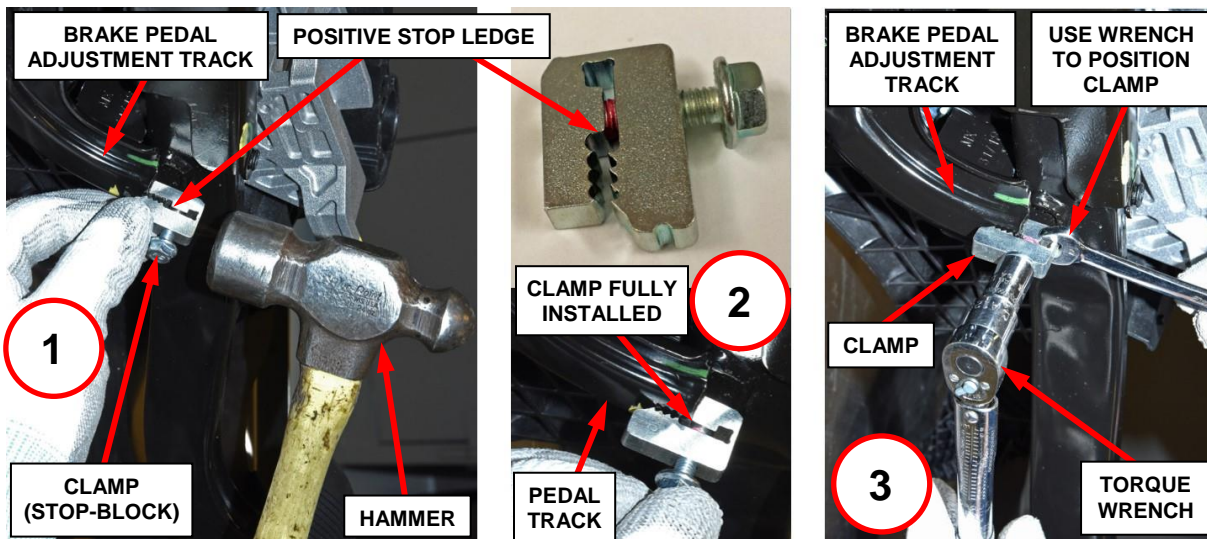

Figure 10 – Clamp (Stop-Block) Installation to Brake Pedal Adjustment Track
- Fully install the clamp until the positive stop ledge comes in contact with the brake pedal adjustment track. Use a wrench or similar tool to position and hold the clamp from rotating while tightening the clamp bolt to 10.5 N·m (93 in. lbs.) (Figure 10).